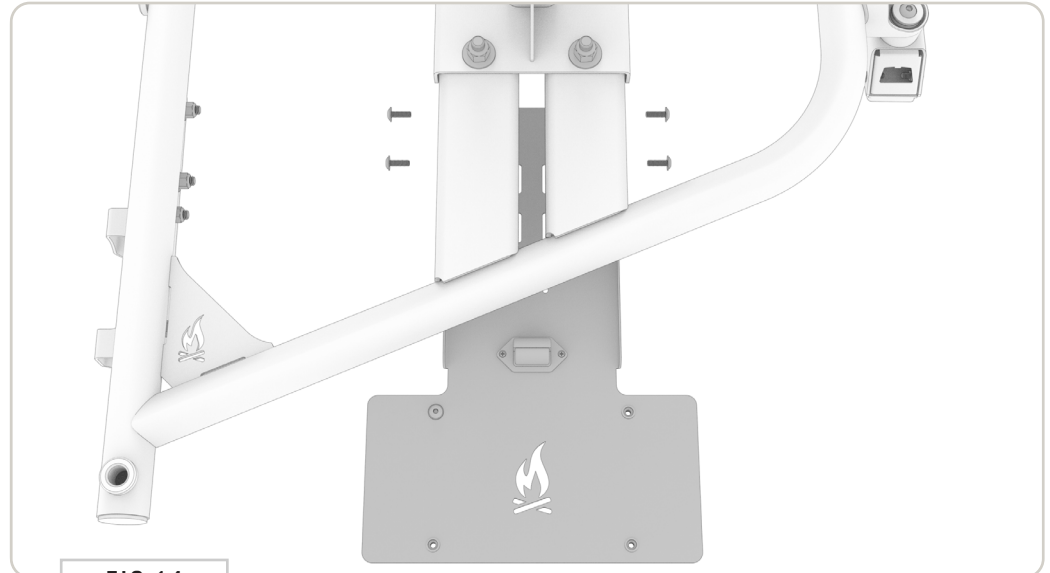

FIG 14
**4.3 Attach License Plate Relocation Bracket:** Attach the License Plate Relocation Bracket to the Tire Carrier Frame using: (4) 1/4-20 X 0.5 Flanged Button Head Screws in the threaded locations shown in FIG 14+15